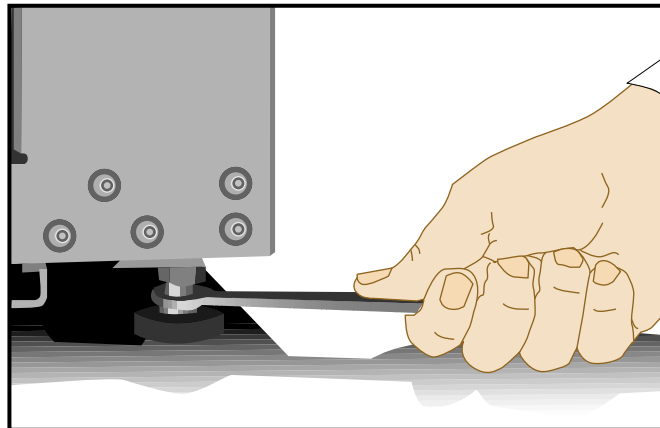

Figure C-9 Leveling Bolts
3. Adjust the leveling bolts of rack 001, as shown in Figure C-9, until the rack is level.